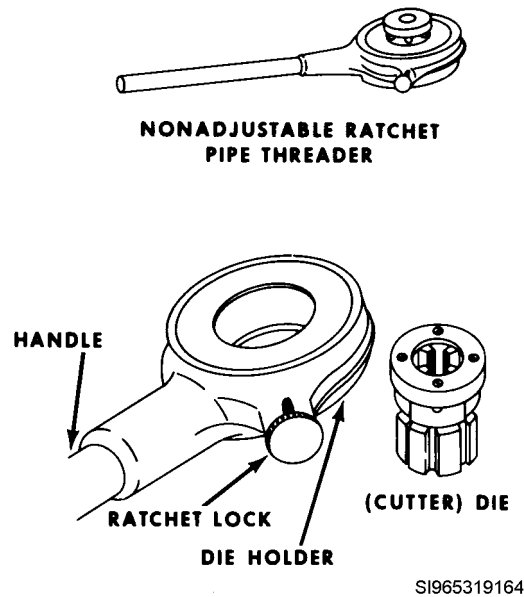

Figure 2. Ratchet threader and dies.
- The most common rigid conduit threader uses nonadjustable ratchet dies (fig. 2), which come in sizes to fit conduit from $\frac{1}{2}$ inch to 2 inches. Before threading the pipe, inspect the dies to see that they are sharp and free from nicks and wear.